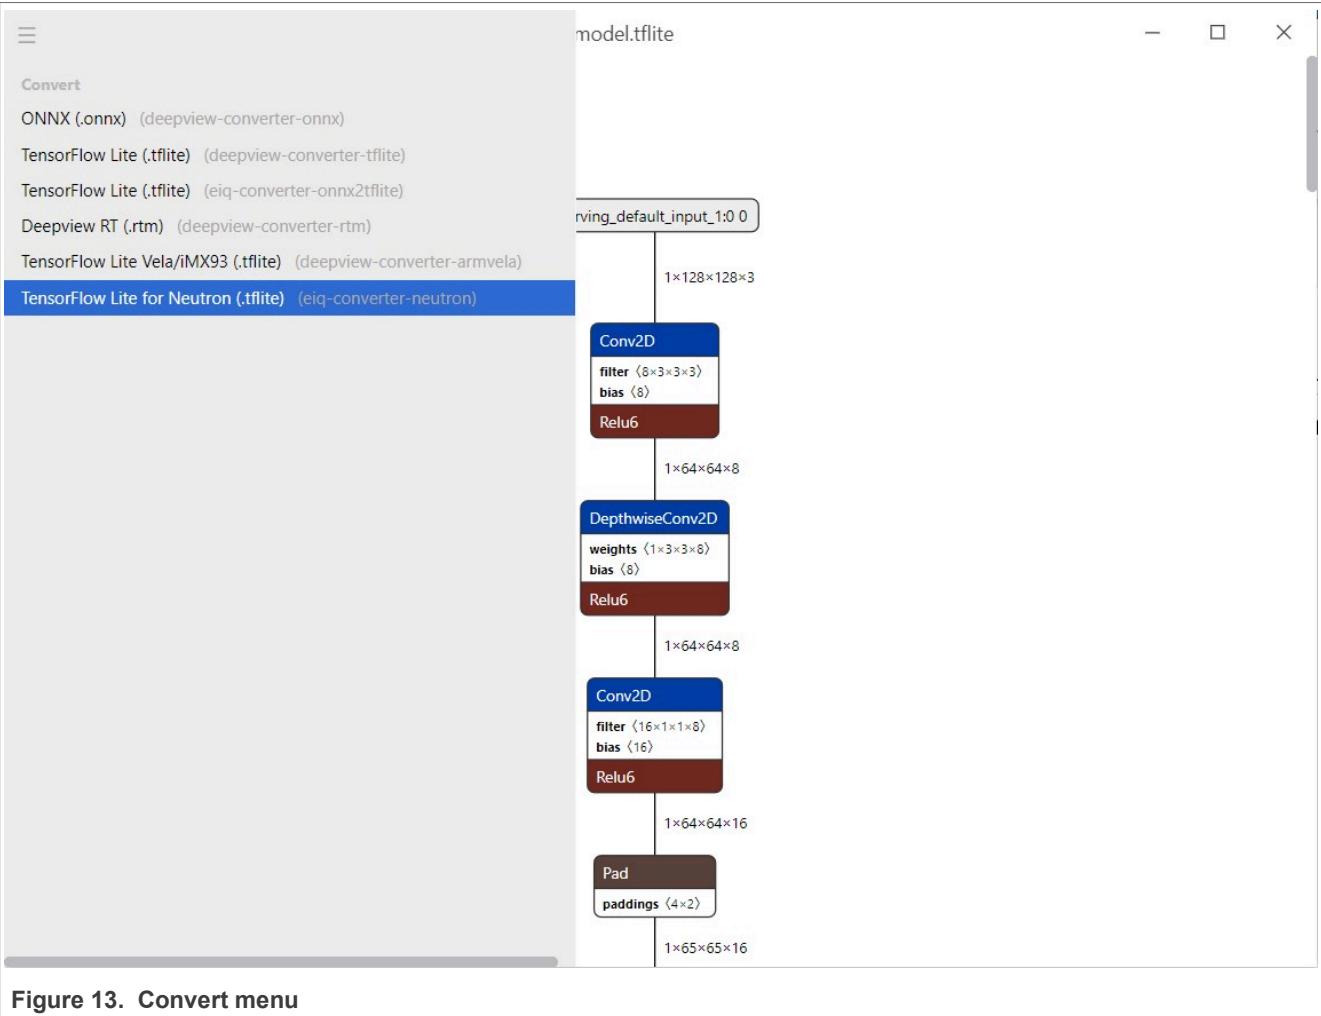

Figure 13. Convert menu
- 3. Click the menu on the left top, and select TensorFlow Lite For Neutron in the Convert menu as shown in Figure 13.